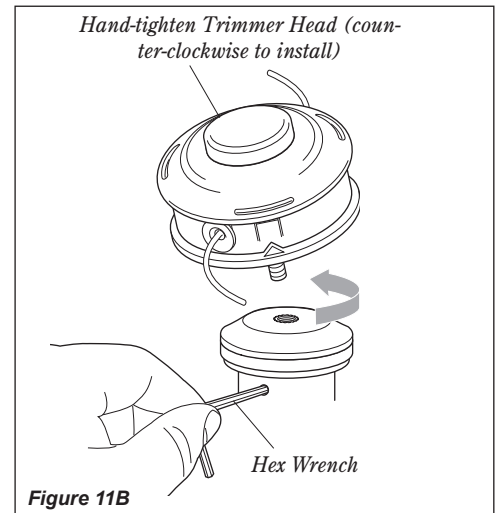

Figure 11B
3. Using the hex wrench to secure Holder A, install and hand-tighten the trimmer head (counter-clockwise to install). See Figure 11B.